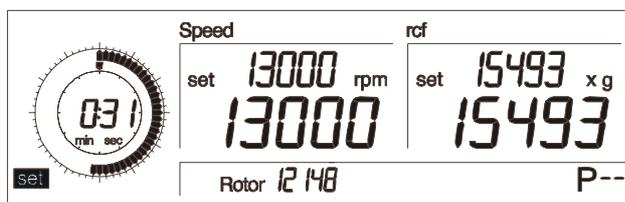

Fig. 5.10: Setting the time
- Turn the left rotary knob until "set" appears in the lower left area of the display (Fig. 5.10).